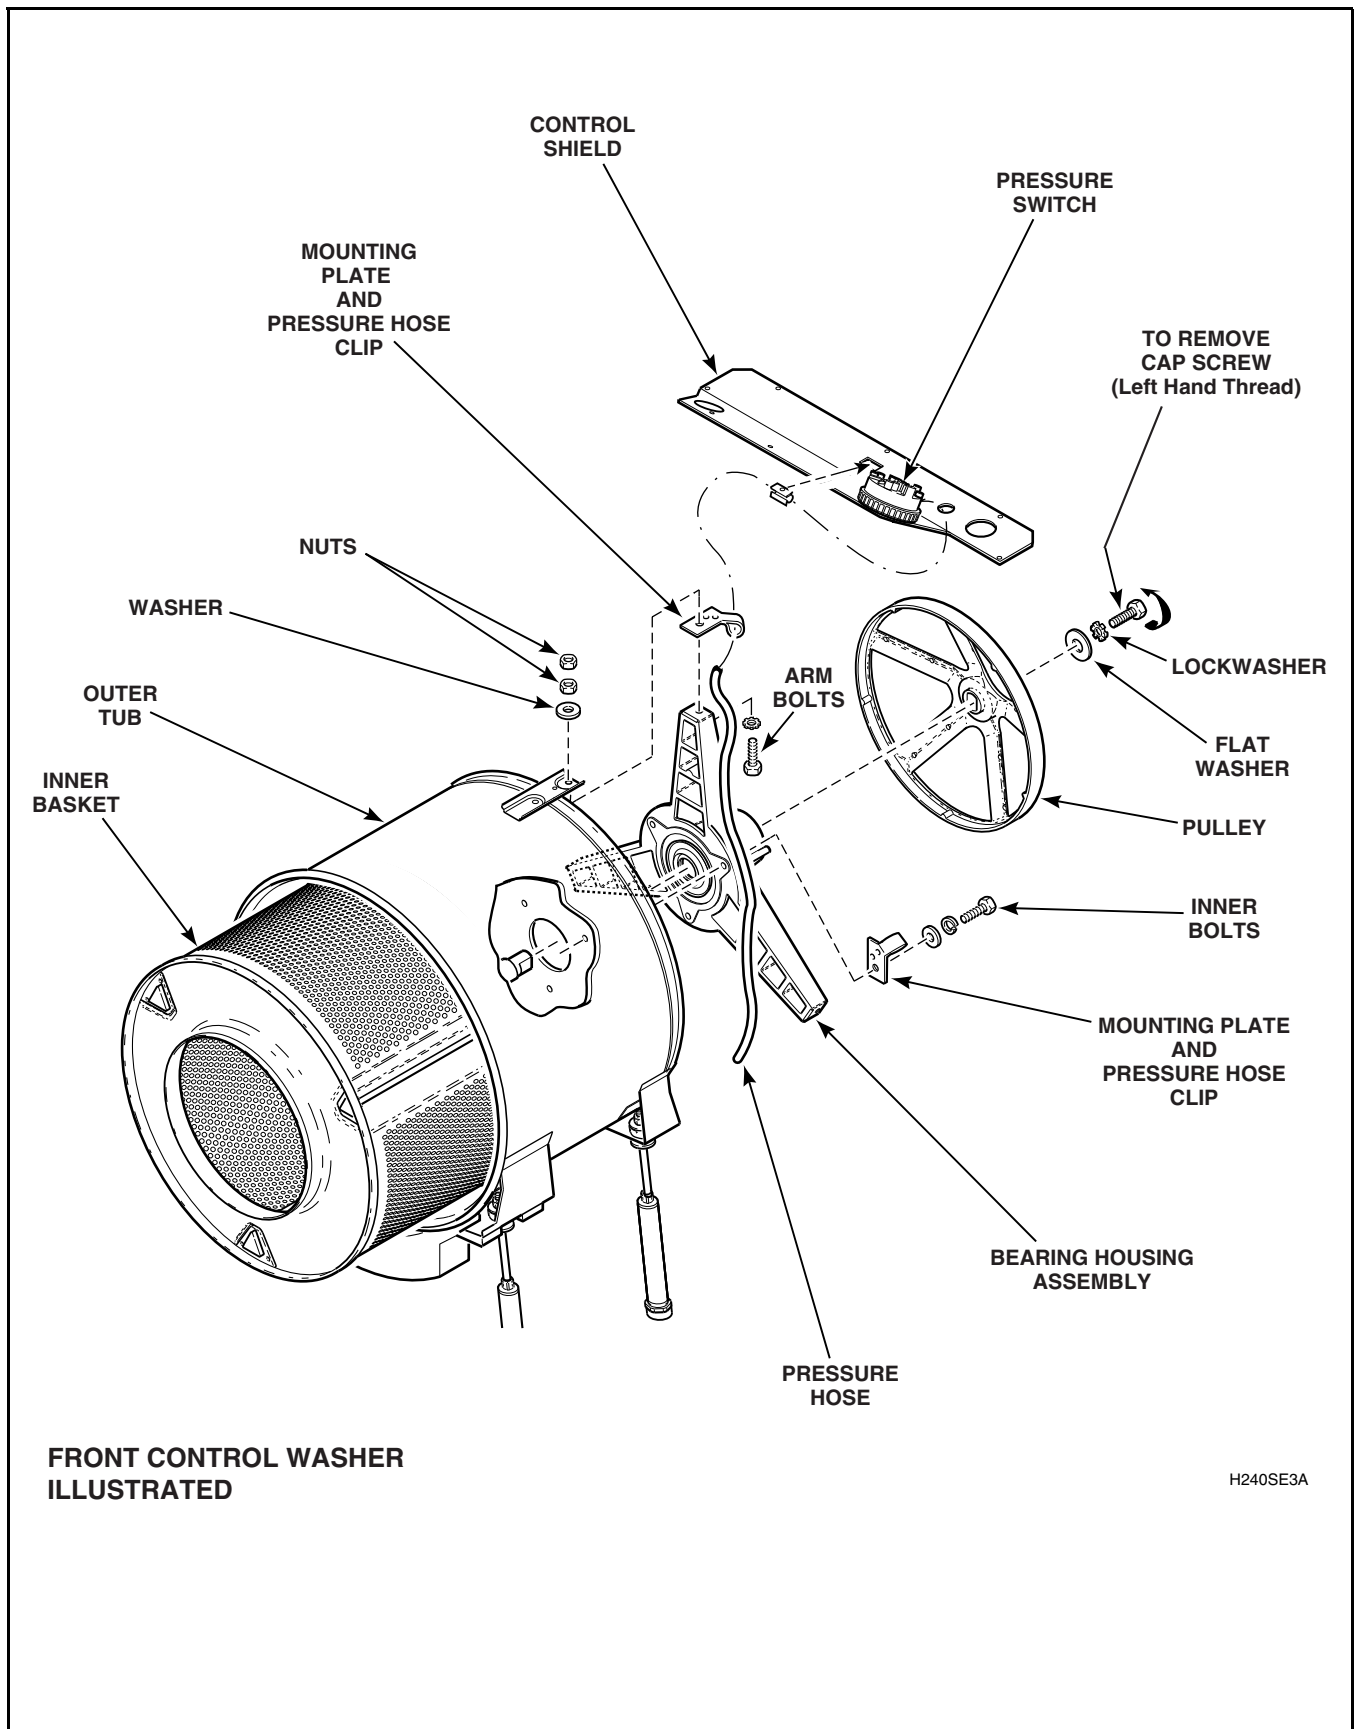

Figure 74
- Remove cap screw (left hand thread), lockwasher and flat washer holding pulley to inner basket shaft. Refer to *Figure 74*.
- Install pulley, flat washer, lockwasher and left hand cap screw. Refer to *Figure 74*.
- s. Remove cap screw (left hand thread), lockwasher and flat washer holding pulley to inner basket shaft. Refer to *Figure 74*.
**IMPORTANT:** Prior to disassembly, note the position of the pressure hose, hose clips and mounting plate so parts can be reinstalled in the same position. Refer to *Figure 74*.
- x. While supporting bearing housing, remove three inner screws holding bearing housing to rear of outer tub. Refer to *Figure 74*.
**NOTE:** When installing the bearing housing, be sure to route the pressure hose under the right arm and attach hose and pressure hose clip to mounting plate. Refer to *Figure 74*. Then route pressure hose up to the hose mounting plate on the top arm. Refer to *Figure 74*. Make sure there is no slack between these two points.
- ab. Install pulley, flat washer, lockwasher and left hand thread screw. Refer to *Figure 74*.